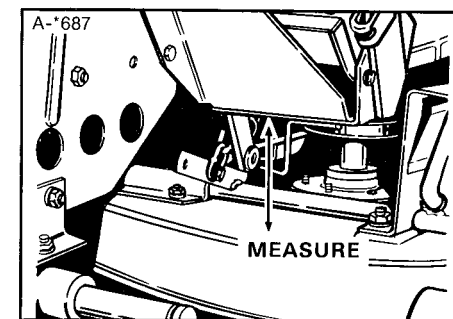

Figure 45. Measurement - Large Lift Lever - 36" Mower
- Measure the distance from bottom edge of lever bracket to mower deck (figure 45).